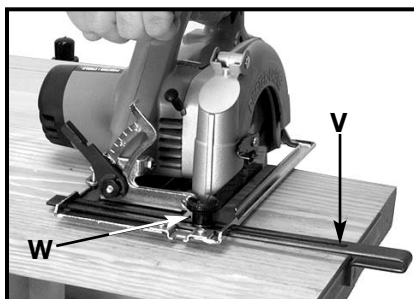

Fig. 20
A rip guide (V) Fig. 20 is available as an accessory. To install:
1. Insert the rip guide (V) Fig. 20 through the slot in the left side of the base, over the stud, and through the slot in the right side of the base.
2. Install the washer and knob (W) Fig. 20 on the stud (do not tighten) and adjust rip guide for desired width of cut.
For narrow rip cuts, the rip guide is available as an accessory. Guide the saw by keeping the inner face of the rip guide (Fig. 20) tight against the edge of the board.